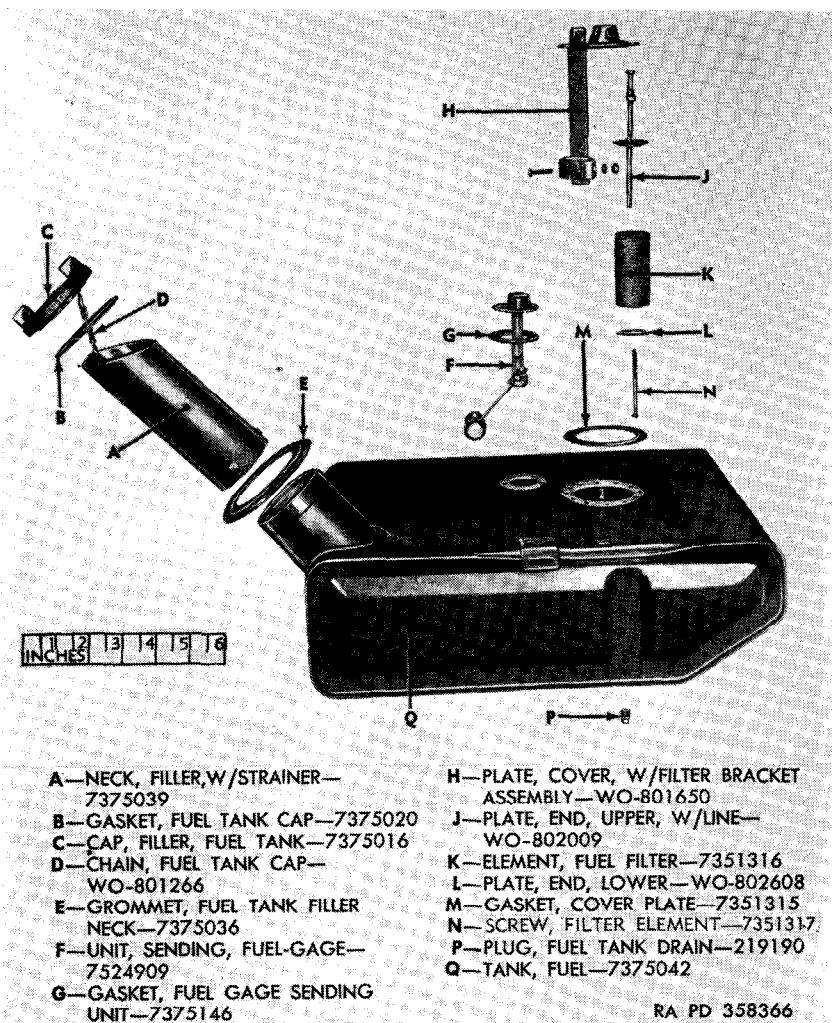

Figure 107. Fuel tank—exploded view.
(fig. 107)
b. Disassembly (fig. 107). Remove filler neck with strainer (A), fuel tank filler neck grommet (E), and fuel tank filler cap (C). Remove the five screws and sealing washers securing the fuel gage sending unit (F) to the fuel tank; remove fuel gage sending unit and fuel gage sending unit gasket (G). Remove the 12 screws and sealing washers securing cover plate with filter bracket assembly (H) to fuel tank (Q); remove fuel tank filter cover plate and cover plate gasket (M). Remove fuel tank drain plug (P) from bottom of fuel tank (Q).
d. *Assemble Fuel Tank* (fig. 107). Install a new fuel tank filler neck grommet (E), filler neck with strainer (A), and fuel tank filler cap (C). Place a new fuel gage sending unit gasket (G) in position. Insert fuel gage sending unit (F) into fuel tank (Q). Aline holes and secure with five cap screws and sealing washers. Place a new cover